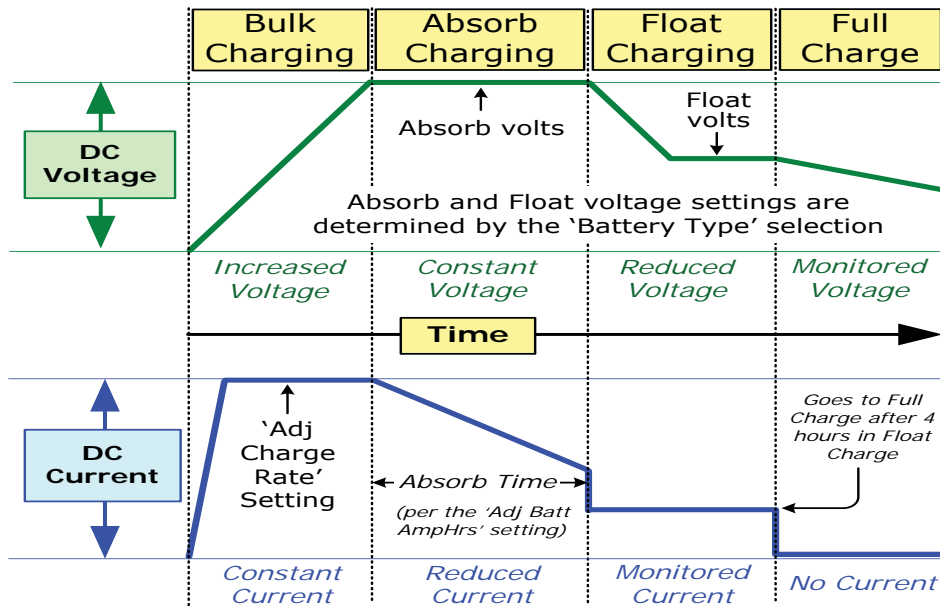

Figure 16, Automatic 4-Stage Charging Graph
The multi-stage charger can use up to five different charging stages to help monitor and keep the batteries healthy. The five stages include an automatic 4-stage charging process (Bulk, Absorb, Float, and Full Charge), and a manual Equalization (EQ) charge stage. The automatic 4-stage charge process provides complete recharging and monitoring of the batteries without damage due to overcharging (see Figure 16). The Equalization stage (requires the ME-RC50 remote) is used to stir up stratified electrolyte and reverse any battery plate sulfation that might have occurred.